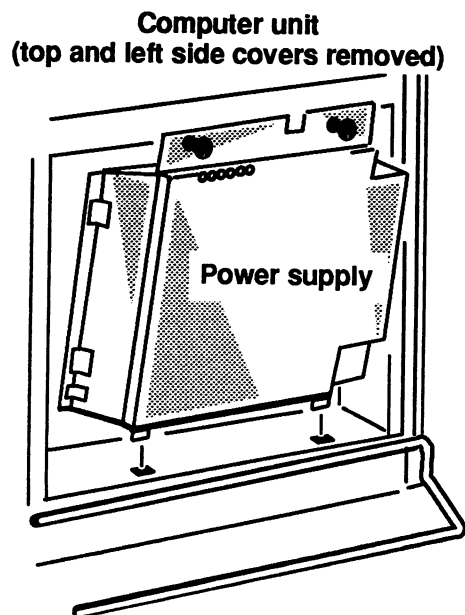

Figure 6-5 Removing the Power Supply
4. Lift the power supply up and then out of the computer unit as shown in Figure 6-5.